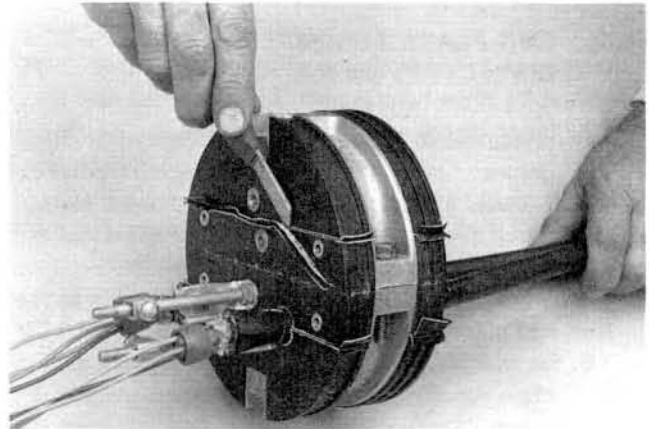

Figure 26
12.03 Visualize where the adaptor collar is to be placed and move it back out of the way. Using a splicer's knife, cut the excess LOCK-TAPE™ Sealant from the seam areas where the collar will be placed. Figure 26.